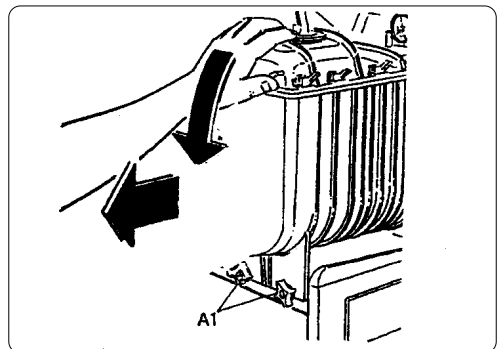

Fig. 30
- e) Unscrew the knobs (A1) to lower the tanks slightly and then slide the tank out of its seating, pulling it outwards (fig. 30).